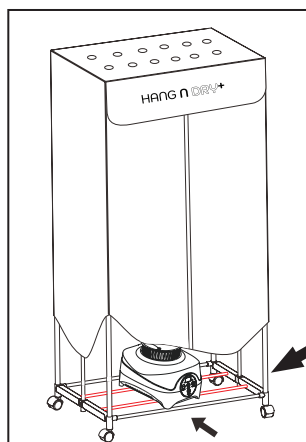

Fig. 12
10. Secure (E) 2 small poles into the inner slots at the bottom of the module, so you can securely place the heater on top of them (Fig. 12).